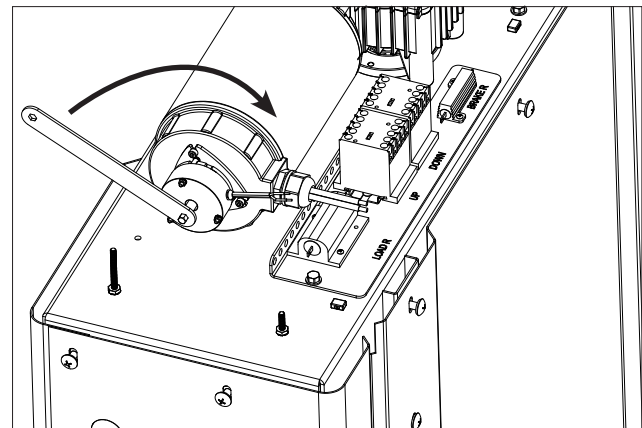

Figure 4-14
4. The wrench fits over the $\frac{1}{4}$ " hex shaft at the end of the drive motor. It is designed to be rotated by hand — clockwise, which will turn the screw and lower the platform. **See Figure 4-14.**